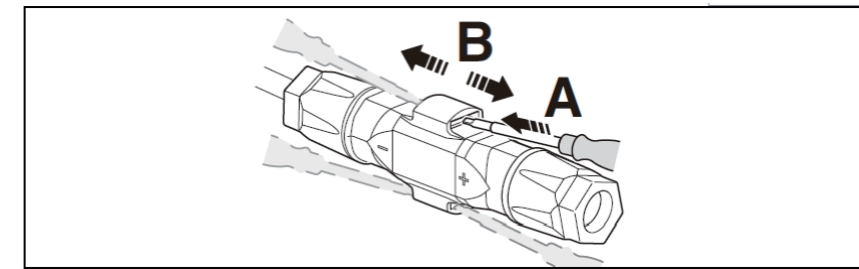

Figure 5-17
- 1) Insert the screwdriver into one of the four openings (Figure 5-17, A).
- 2) Leave the screwdriver in the opening. Pull the two connectors apart (Figure 5-17, B).